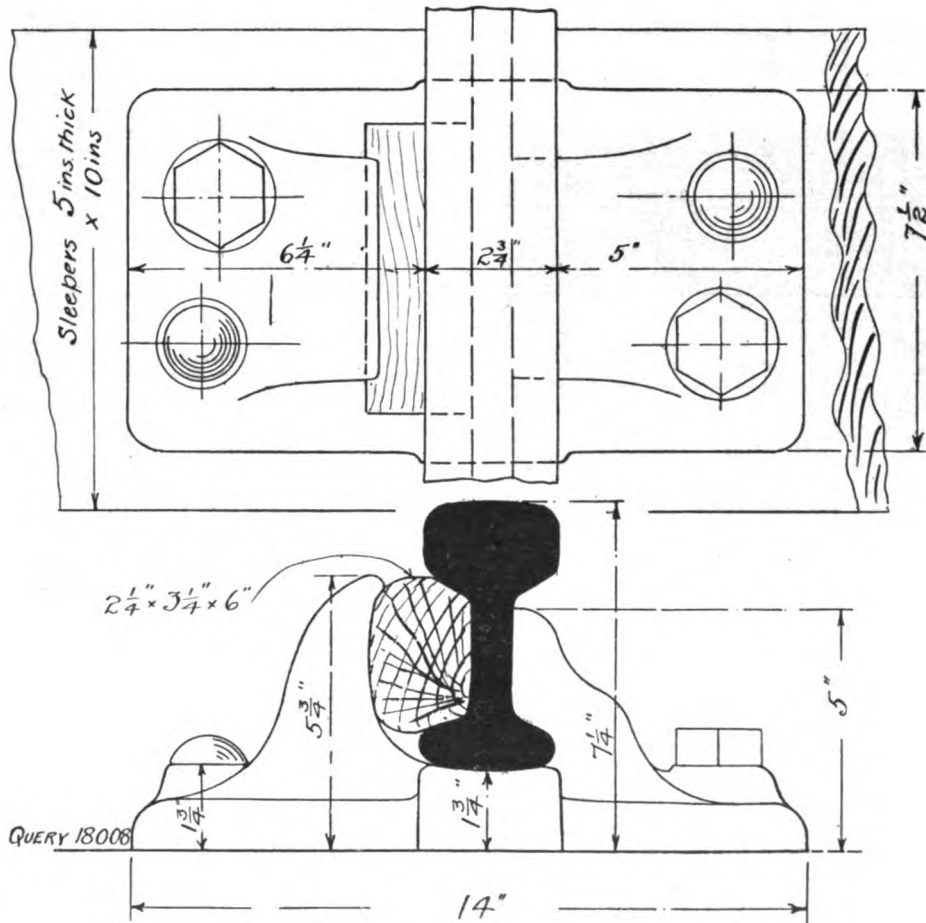

FIG. 2.—L.N.W.R. CHAIR, SHOWING RAIL KEY AND FASTENINGS IN POSITION. (Quarter full size.)
vertical support to the joint. The fastenings of the chairs used on the L. & N.W.R. are, as far as we can judge, a screw and a spike. In some cases we noted a treenail instead of the spike, and somewhere—we forget where—we have seen a hollow treenail used with a spike driven through it. (2) We append a sketch of the L. & N.W.R. bull-headed rail which, we believe, weighs somewhere about 90 lbs. per yard. The section was obtained from the rail itself and, therefore, we cannot give you the standard dimensions in micrometer sizes. You will find further particulars of rail sections in the "British Standard Specifications and Sections of Bull-headed Rails," a report issued by the Engineering Standards Committee (L. S. Robertson, secretary). London: Crosby Lockwood & Son, Stationers' Hall Court, E.C. (3) The drawing (Fig. 2) shows the L. & N.W.R. pattern chair and key. Chairs, as far as